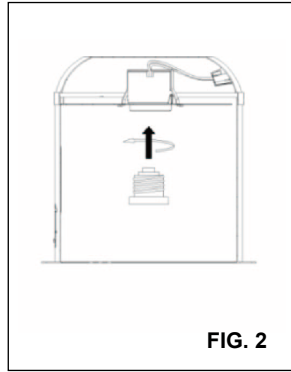

FIG. 2
- 2.Thread the SOCKET ADAPTER into the SOCKET. **(FIG. 2)**
- 5.Tuck all wires into the CAN and carefully push the RETROFIT KIT into CAN. (NOTE: To provide enough room in shallow cans, carefully position SOCKET ADAPTER and SOCKET adjacent to the side of the LED DRIVER prior to inserting the RETROFIT KIT into the CAN.) **(FIG. 2 & 3)**
- 2.Squeeze both TORSION SPRING arms together and insert into the CAN. Tuck all wires into the CAN and carefully push the RETROFIT KIT into CAN. **(FIG. 2 & 3)**